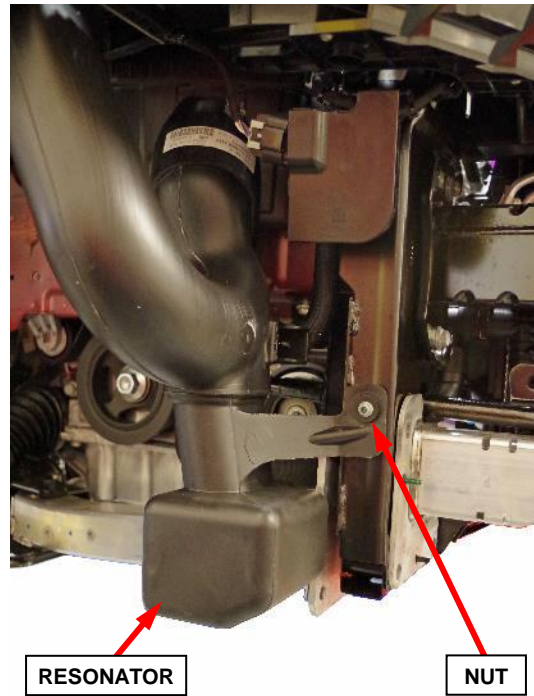

Figure 27 – Air Intake Resonator
32. **If applicable:** Remove the nut securing the air intake resonator to the vehicle and position out of way (Figure 27).